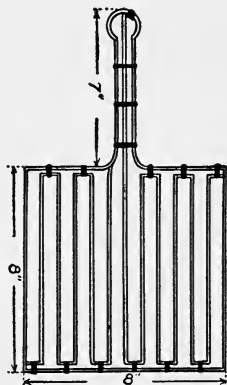

FIG. 31. A USEFUL BENT IRON TOASTER
**How to Make a Toaster.**—This is a good piece of work to start with because it is formed chiefly of straight lines. Draw a plan of it as shown in Fig. 31, full size and then measure the frame and the inside strips—you will observe that there are two of the latter—and find out exactly how long each strip should be.
Now if you will look again at Fig. 31, you will see that one end of the right inside strip projects up and beyond the rest of it and this end sets in the handle of the frame and strengthens it; put a binder on each place where it is shown in the drawing including the handle. Fix in the left inside bent strip with binders and put the binders on so that the rough ends will be